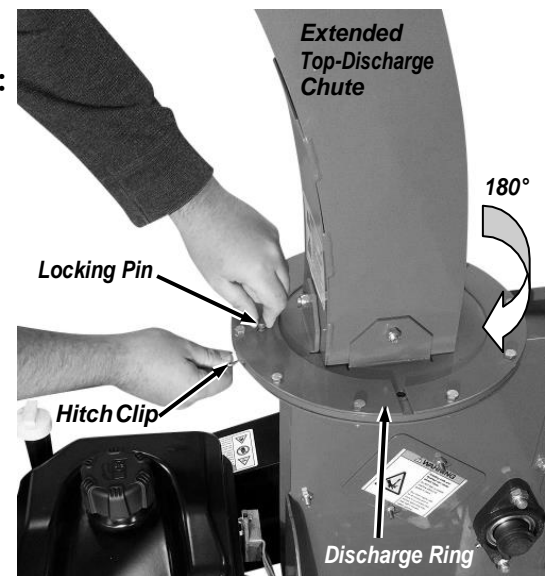

Figure 66
1. Pull the Hitch Clip and remove the Locking Pin (**Figure 66**).
1. Pull the Hitch Clip and remove the Locking Pin from the Discharge Ring (**Figure 66**).